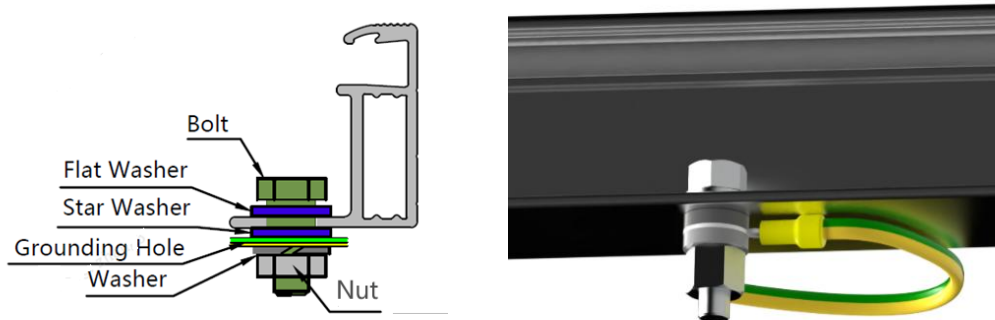

Figure 12 Grounding hole with bolts
- There are grounding holes with a diameter of 4mm on the long side of the back frame of the module, by the edge part. The grounding hole on the frame is marked with typical grounding symbol (\perp) according to IEC 61730-1:2023 standard. These holes can only be used for grounding with bolts, so cannot be used for module installation. This method includes bolt, flat washer, star washer, washer and nut (see Figure 12) . The bolts should be tightened when grounding is installed. The frame of the module must not be punched with additional holes and no damage should be done to the module frame or the grounding wire.